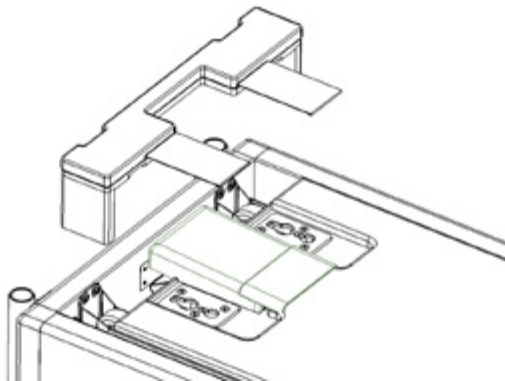

Figure 20
3. Roll the carriage to the head end of the frame. When close to the end of the frame, drop in the Mat Caster Cover assembly between the frame and the carriage. This will act as a stopper for the carriage and cover the casters. See Figure 20. The flaps go over shoulder plates, when the shoulder rests are removed.